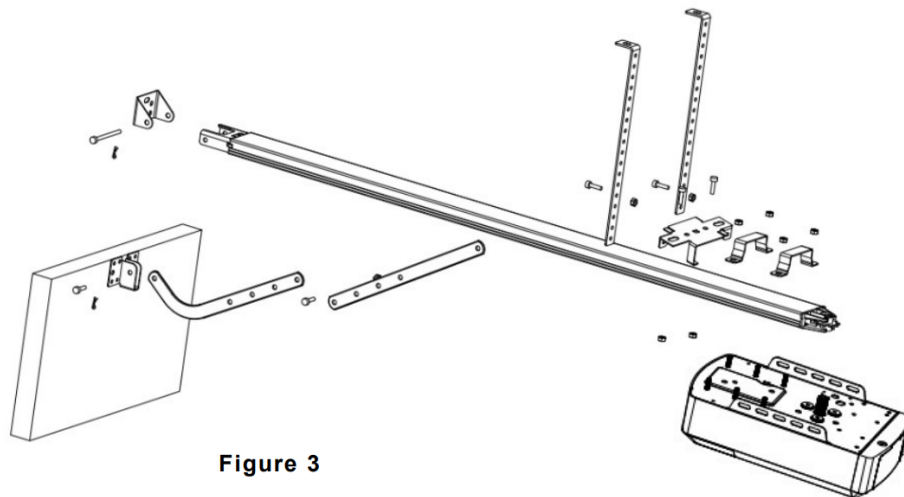
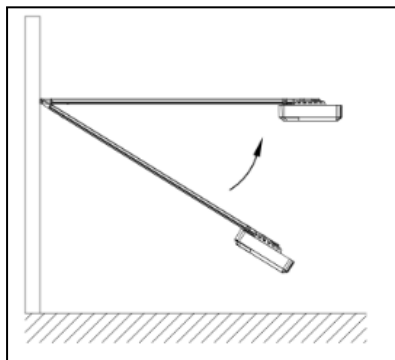

Figure 3
Figure 4
STEP 1 (Fig.3)
STEP 2 (Fig.3)
STEP 3 (Fig.3, Fig.4)
STEP 4 (Fig.3, Fig.5)